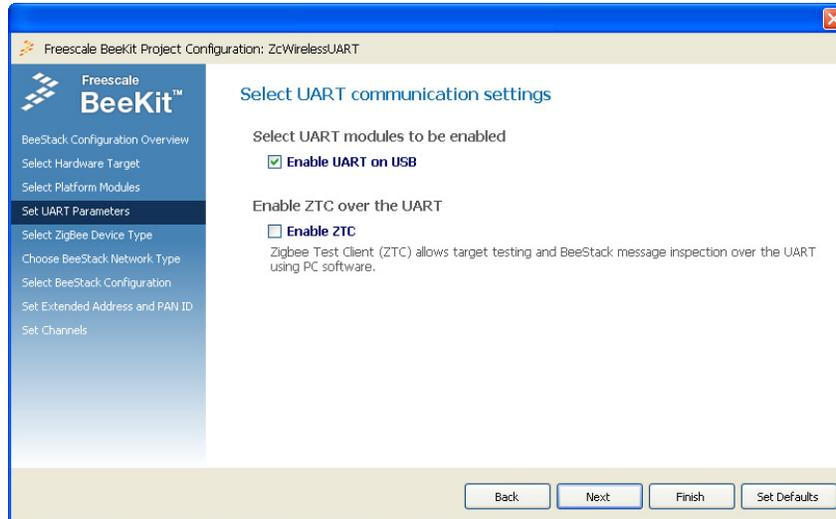

Figure 5-6. UART Parameters Page
4. Leave the default platform modules settings unchanged. (LEDs and Keyboard modules on the MC1320x-S08QE128-EVB board enabled.) Click the Next button and the Set UART Parameters window appears as shown in Figure 5-6. Leave the default UART settings unchanged. (The UART module enabled on the USB port of the MC1320x-S08QE128-EVB and the ZigBee Test Client (ZTC) disabled.)